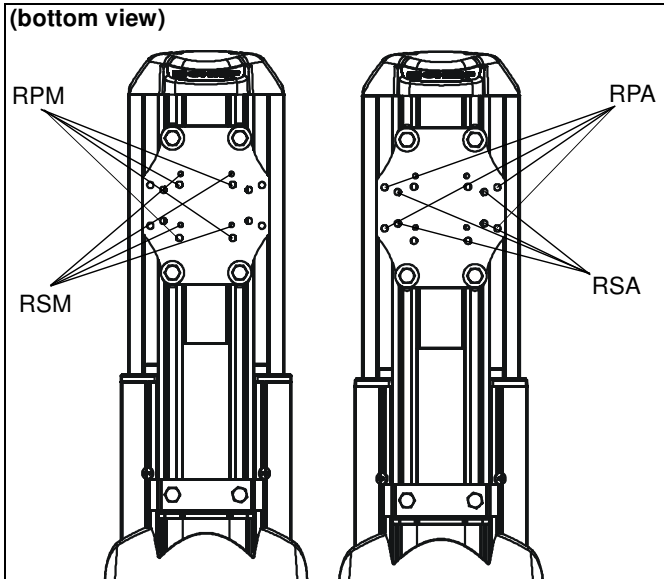

Figure 14
Determine hole configuration to use for each specific projector mount. (See Figure 14)
1. Line up mounting holes on RPM mount with corresponding holes on projector mounting plate. (See Figure 14)
1. Line up mounting holes on RSM mount with corresponding holes on projector mounting plate. (See Figure 14)
1. Line up mounting holes on RPA mount with corresponding holes on projector mounting plate. (See Figure 14)
1. Line up mounting holes on RSA mount with corresponding holes on projector mounting plate. (See Figure 14)